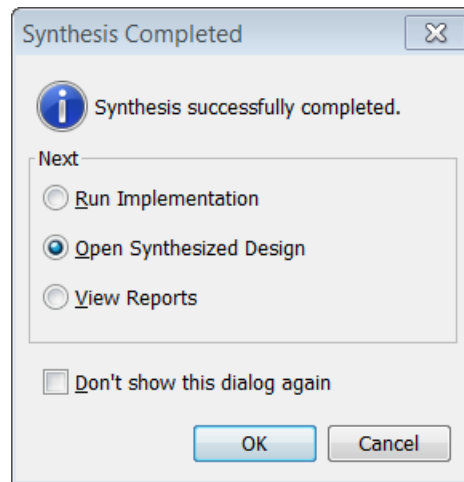

Figure 62: Open Synthesized Design
2. When synthesis completes, select **Open Synthesized Design** from the Synthesis Completed dialog box and click **OK** (FIGURE 62).